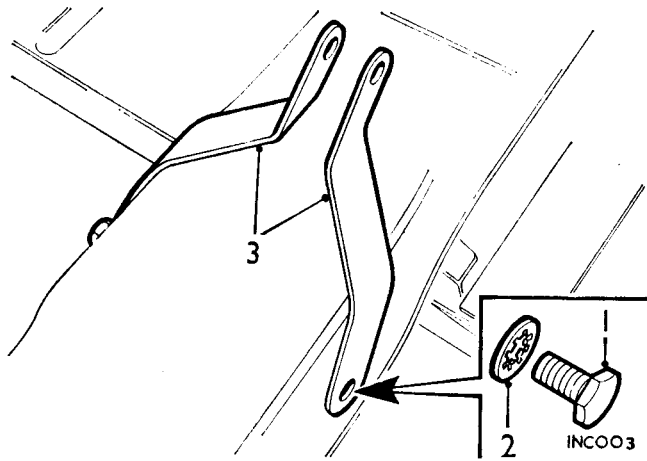

Fig. Rb.15
7. Remove the carpet to obtain access to the bracket securing screws. Unscrew and remove the two securing screws (1) (with their spring washers) and detach the mounting straps (3), see Fig. Rb.15.
4. Remove the carpet to obtain access to the strap securing screws. Unscrew and remove the two securing screws (1) (with their spring washers) and detach the mounting straps (3), see Fig. Rb.15.